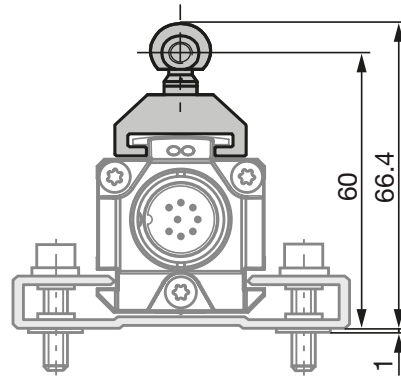
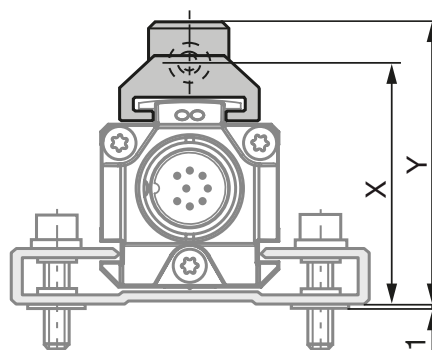
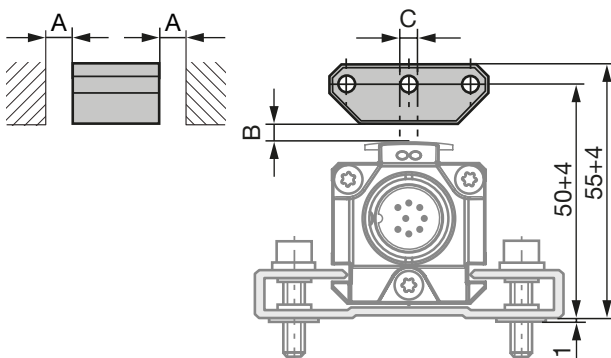
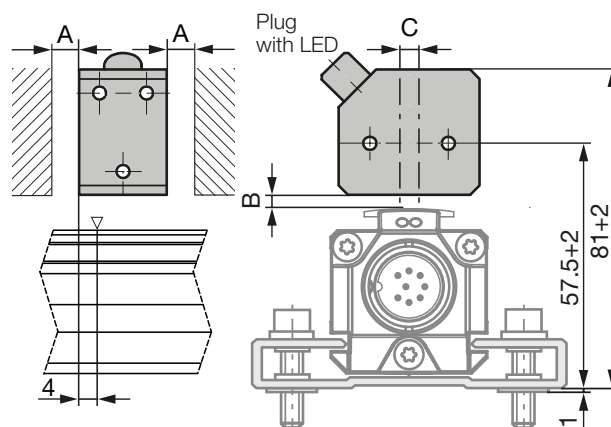

Fig. 4-1: Dimensions and distances with BTL5-F-2814-1S magnet
Fig. 4-3: Dimensions and distances with BTL5-M/N-2814-1S magnet
Fig. 4-4: Dimensions and distances with BTL5-P-3800-2 magnet
Fig. 4-8: Dimensions and distances with BTL5-P-4500-1 electromagnet (24 V/100 mA)
i The micropulse transducer in profile housing is suitable both for floating, i.e. non-contacting magnets (see Fig. 4-4 to Fig. 4-8), and for captive magnets (see Fig. 4-1 to Fig. 4-3).
- Ensure that the distance A between the magnets and parts made of magnetizable material is at least 10 mm (see Fig. 4-4 to Fig. 4-8).
- Maintain the following values for distance B between the magnet and transducer and for center offset C (see Fig. 4-4 to Fig. 4-8):
The measuring range is offset by 4 mm towards the BTL plug (see Fig. 4-8).